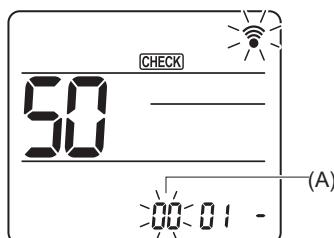

Fig. 6-15
- (2) Setting the unit number
Press the **[▼]** button to set unit number (A). (Fig. 6-15)